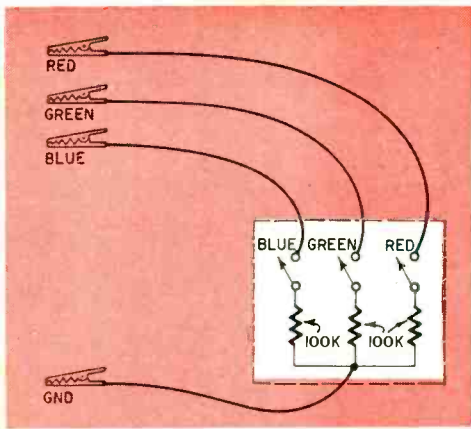

Fig. 2—Grid shunt box disables color picture-tube guns during purity, convergence and gray-scale tracking adjustments.
3. With a grid shunt box (Fig. 2), determine which of the three colors produces the *dimpest* horizontal line. Adjust the KINE BIAS control until this dimmest line is just barely *extinguished*.